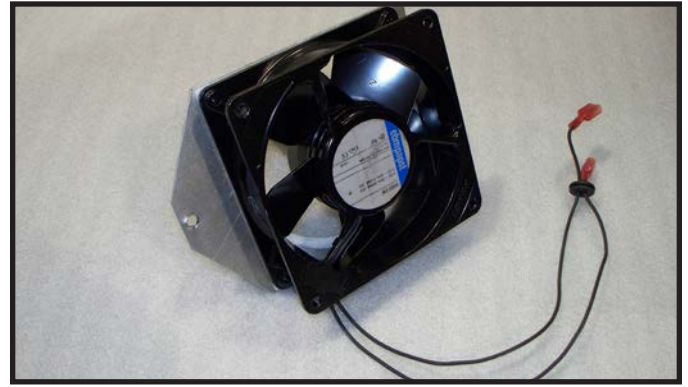

Figure 12.13 Removed Mounting Plate
9. Attach new blower to mounting plate by fastening the four screws in the appropriate locations. The side of the blower with the label on it must face toward the inside of the appliance. This is the direction of the air flow. See Figure 12.13.